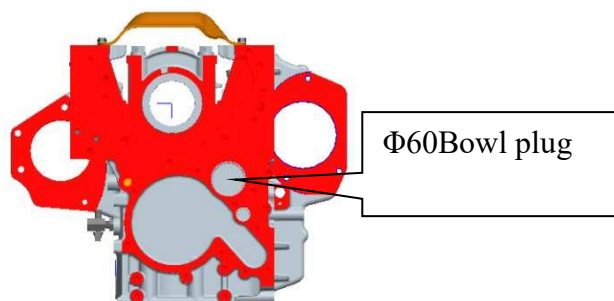

Fig. 4-28 Installation position of bowl plug
d. Apply Loctite 277 sealant to the outer face of $\Phi 60$ bowl plug, then press it into the camshaft hole with the special tooling. After that, use the towel to wipe away the surplus sealant. After installation, there must be no edge failure on the bowl plug (fig. 4-28). Besides, the outer end surface should be lower than the end surface of bowl plug hole.